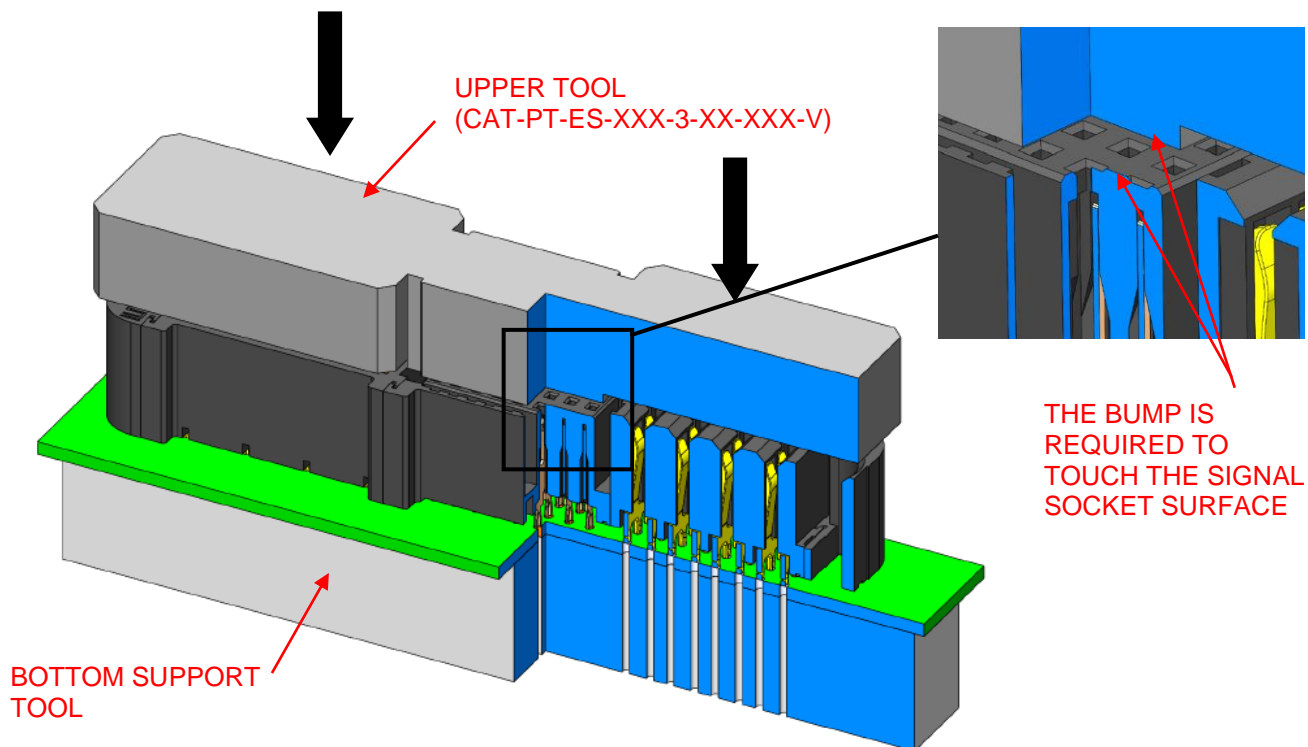

Figure 4: Top & Bottom Support Tool Application to Seat Connector
2. A Samtec upper tool is required for **ET60S 3 Signal Rows** option (see figure 4 for detail); The P/N is CAT-PT-ES-XXX-3-XX-XXX-V, the "XXX" & "XX" in the P/N should follow the specific connector power & signal positions.
- Using an upper tool (for 3 signal rows) or a flat rock surface (for 5 signal rows), a bottom support tool & two insertion press, apply force to the flat area of tool as shown in figure 4.